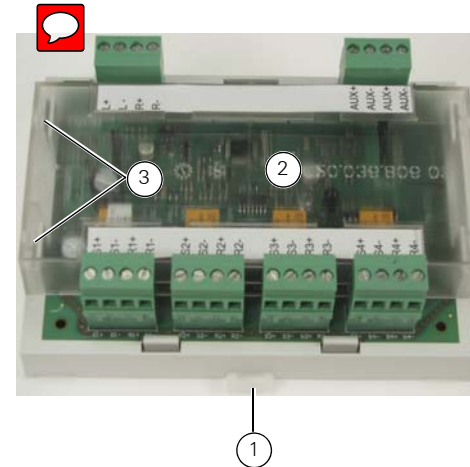

Fig. 1: FC410QMO Quad Monitored Output Module
Figure 1 shows the FC410QMO Quad Monitored Output Module, part number 555.800.770.
To remove the clear plastic cover, release each of the four retaining tabs in turn (see item 3 in Figure 1). Use a screwdriver to press the tab inwards, while pulling upwards on the cover.